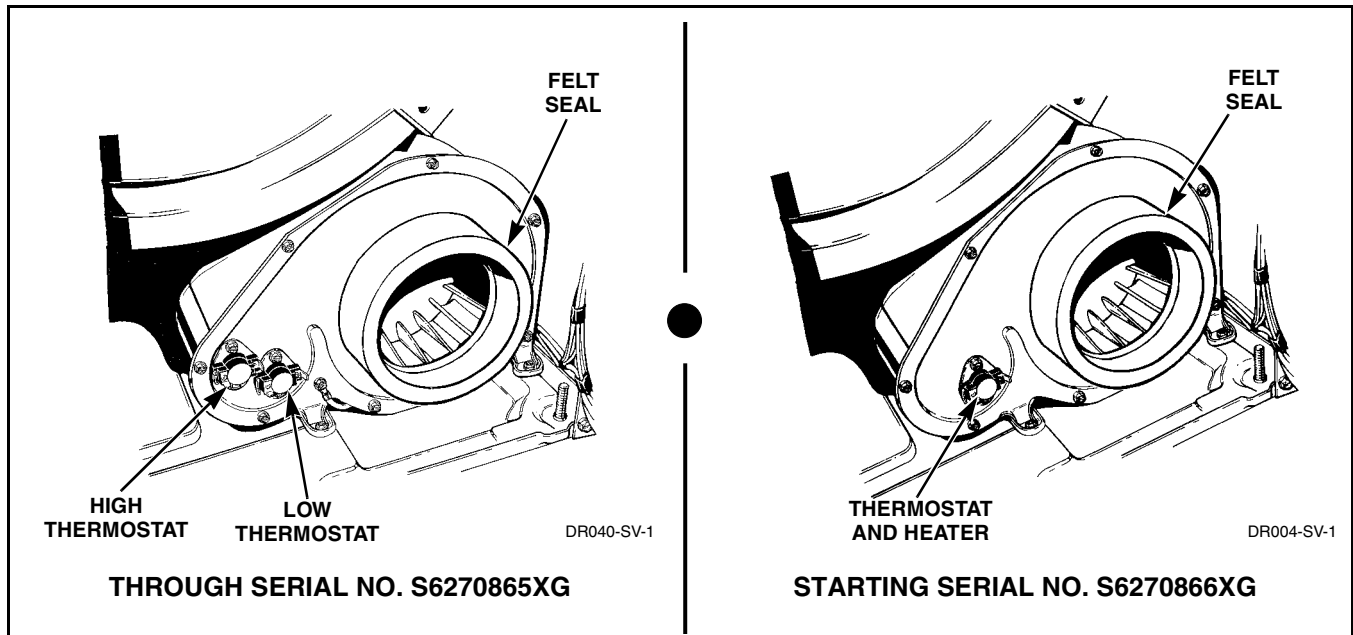

Figure 24
- Disconnect wires, remove thermostat attaching screws and remove thermostat or thermostat and heater. Refer to *Figure 24*.
NOTE: When reassembling, be sure felt seal on exhaust fan cover makes air tight seal on flange of duct. Refer to *Figure 24*.
NOTE: When reassembling, be sure felt seal on exhaust fan cover makes airtight seal on flange of air duct. Refer to *Figure 24*.